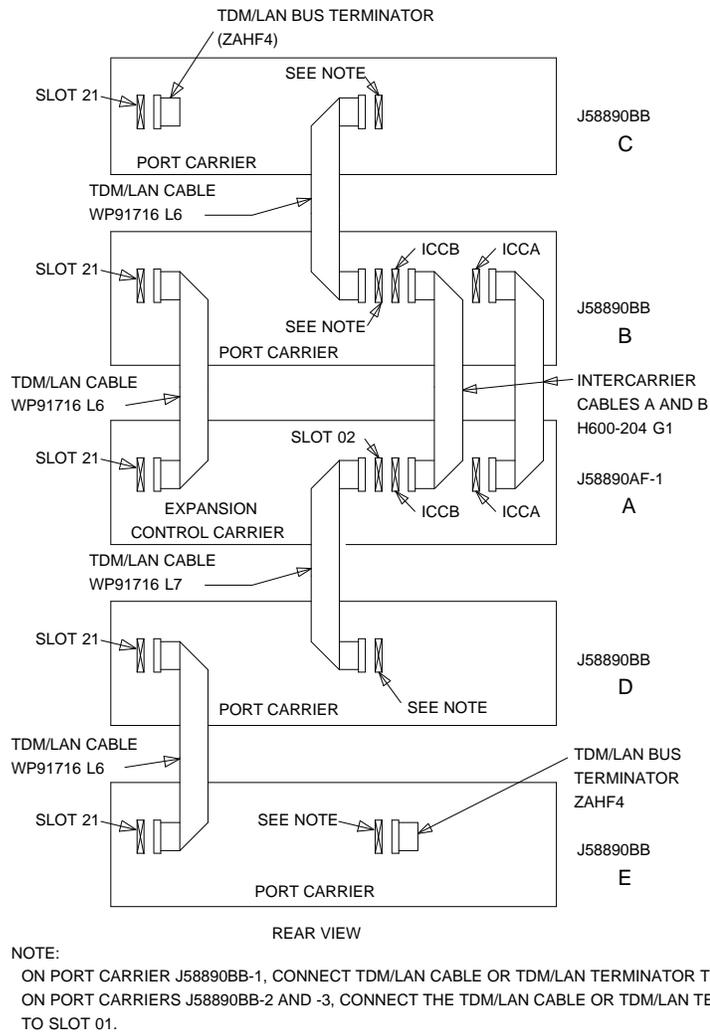

Figure 7-36. TDM/LAN Connections for Critical-Reliability G3i V4 EPN
12. Connect the loose end of the TDM/LAN cable (between the “A” and “D” carriers) to the pin-field block marked “TDM” on the right side of the “A” carrier (see Figure 7-36 and Table 7-8). The other end remained connected to the “D” carrier when the old carrier was removed.